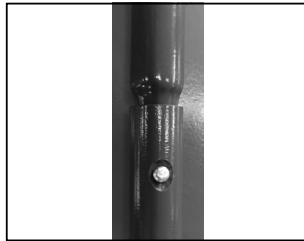

fig 2.
2. Ensure the holes in the Lower Handle (3) aligns with the retaining clip in the Upper Handle (2), push until you can hear a CLICK [fig.2].